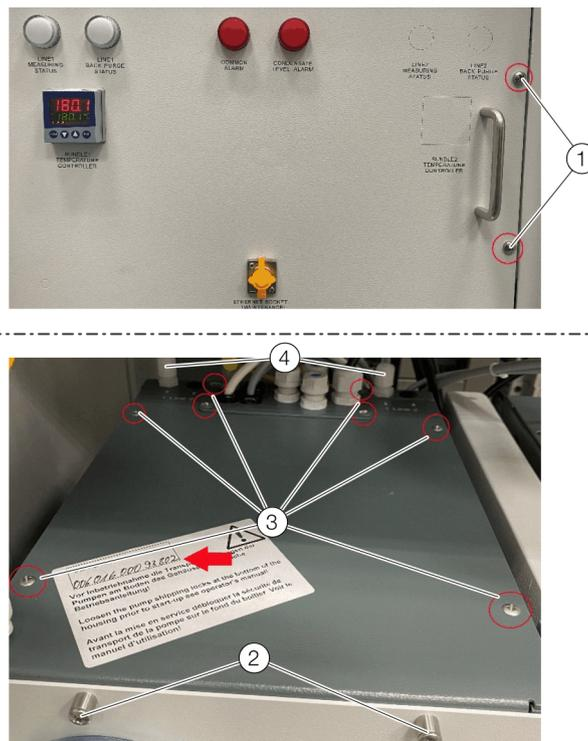

Figure 56: SCC-F cover screws
2. Use a Ph2 crosshead screwdriver to loosen the transport lock ① (two M6×25 mm screws) in the base plate.
3. Unscrew all 8 screws of the cover (Figure 56 ③). Remove the cover and connection plate. Pay attention to the PE connections.
3. Close the cover with all eight screws (Figure 56 ③). Also remember the four screws at the front (Figure 56 ②). Make sure that the PE to the cover is properly connected.